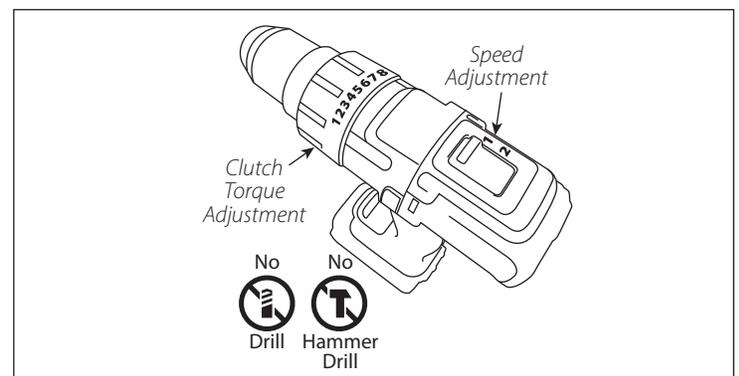

FIGURE 6
3. Set the drill to the lowest speed setting (Level "1" or "Lo" on most drills). **SEE FIGURE 6** Failure to do so may cause loss of control of the tool.
**SEE FIGURE 6**